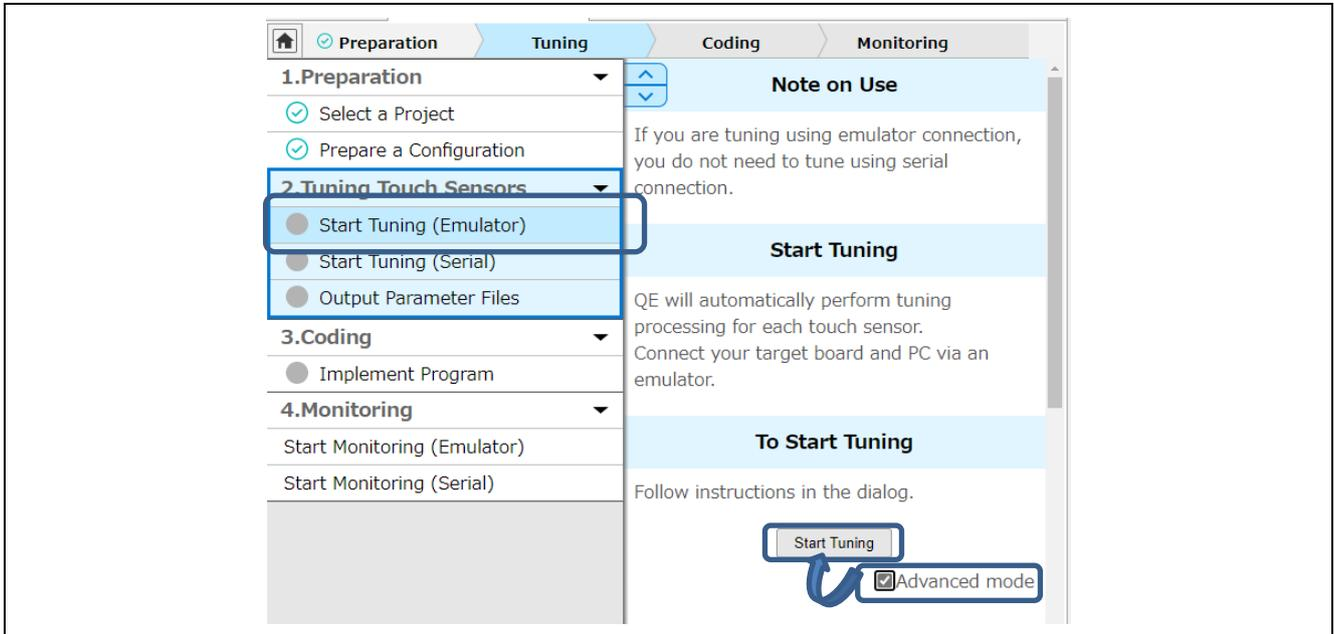

Figure 1-4 Tuning with "Advanced mode"
Figure 1-4 shows the Cap Touch workflow (QE). Tuning can be performed from "2. Tuning Touch Sensors". Tuning by checking the “Advanced mode” checkbox under "Start Tuning".